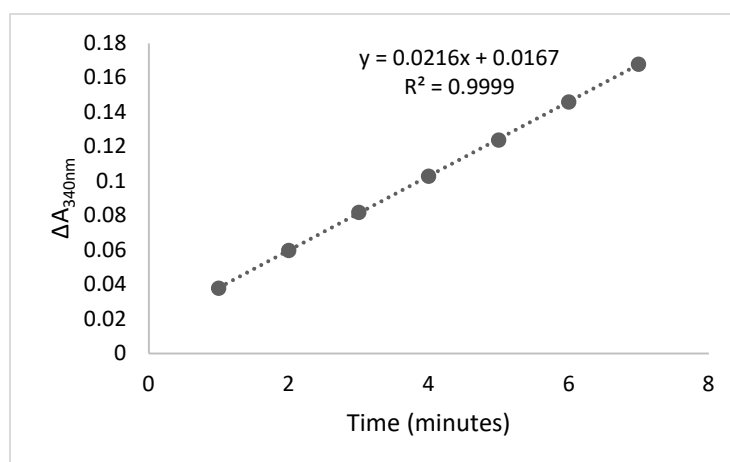

Figure 2. The change in absorbance ΔA_{340nm} of diluted GAPDH positive control during the time at 340nm
1. Determine the change in absorbance $\Delta A_{340nm}/min$ by plotting the absorbance value at ΔA_{340nm} as a function of reaction time to obtain the slope of the linear portion of the curve. As shown in Figure 2.